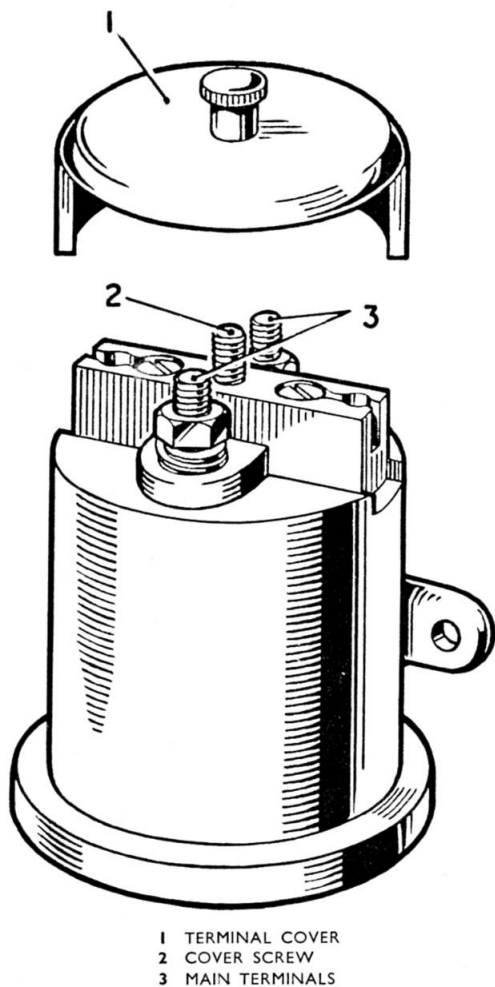
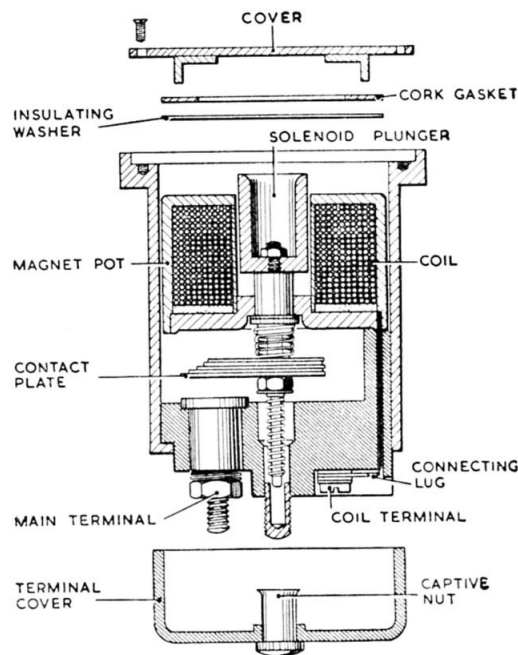

Fig. 1. Magnetic relay switch, Type J
Fig. 2. Sectional view of switch
2. The relay (*fig. 1*) comprises a single-pole, double break switch, operated by an electro-magnet. The closing of a control switch energizes a moving copper contact plate to bridge the two main terminals and energize the load to which the relay is connected. A sectional view is given in *fig. 2*.